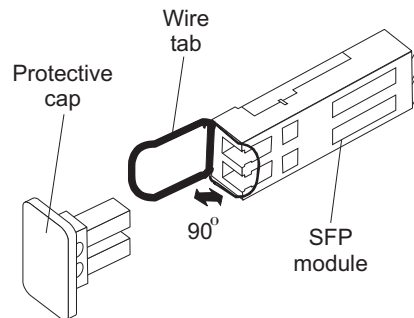

Figure 29. Unlocking the SFP module latch - plastic variety
- For SFP modules that contain plastic tabs, unlock the SFP module latch by pulling the plastic tab outward 10°, as shown in Figure 29.